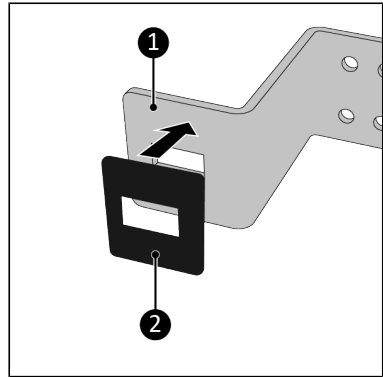

Figure 57.
6. Stick the sandpaper (Figure 57, pos. 2) on the inside of the bottom part of the bracket (Figure 57 pos. 1). Make sure the hole in the sandpaper aligns with the hole in the bracket.